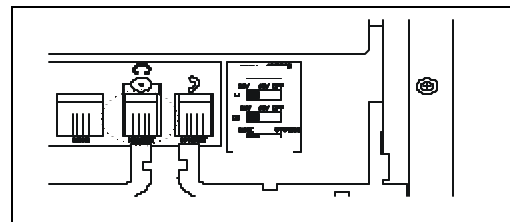

Figure 1
- ? Plug the modular end of the headset cord into the modular port of the telephone labeled “HEADSET” (figure 1).